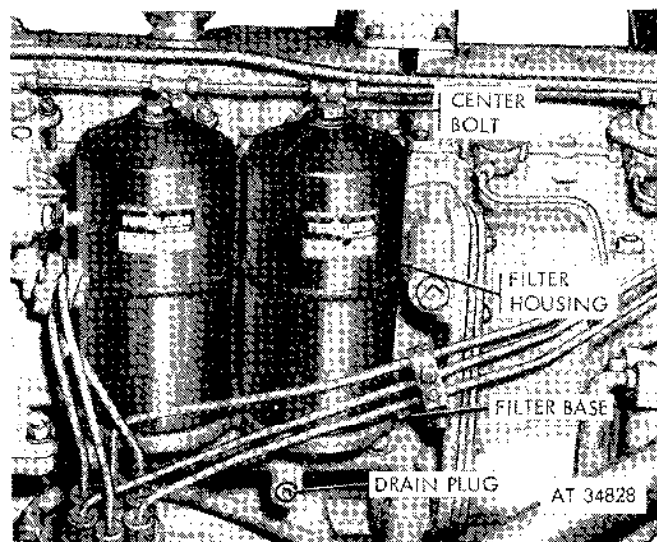

Figure 2-61. Multifuel engine oil filters.
- (1) Remove the pipe plug and drain the oil into a suitable container (fig. 2-61).